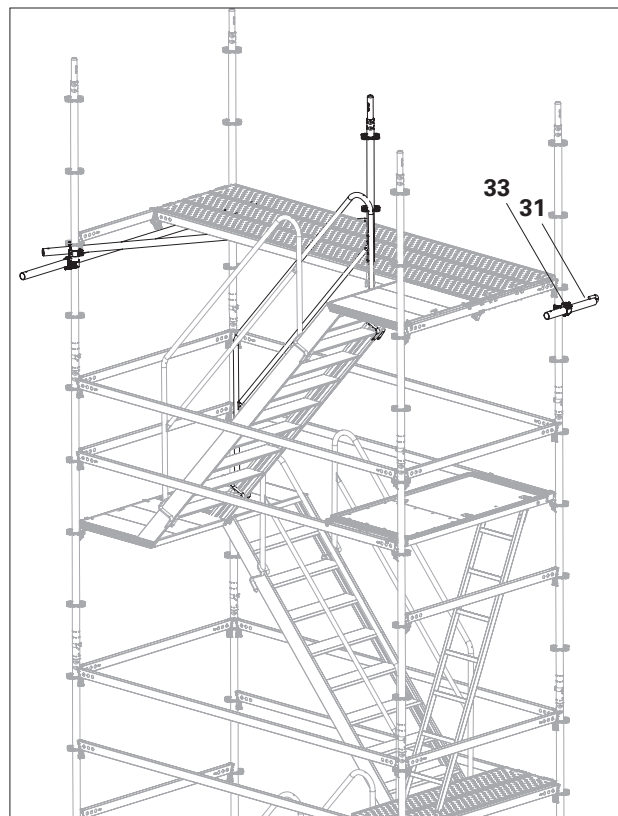

Fig. B5.04
2. Fasten the Standard Coupler RA 48/48 (**33**) to the inner leg with Wall Tie UWT 45 (**31**). (Fig. B5.04)